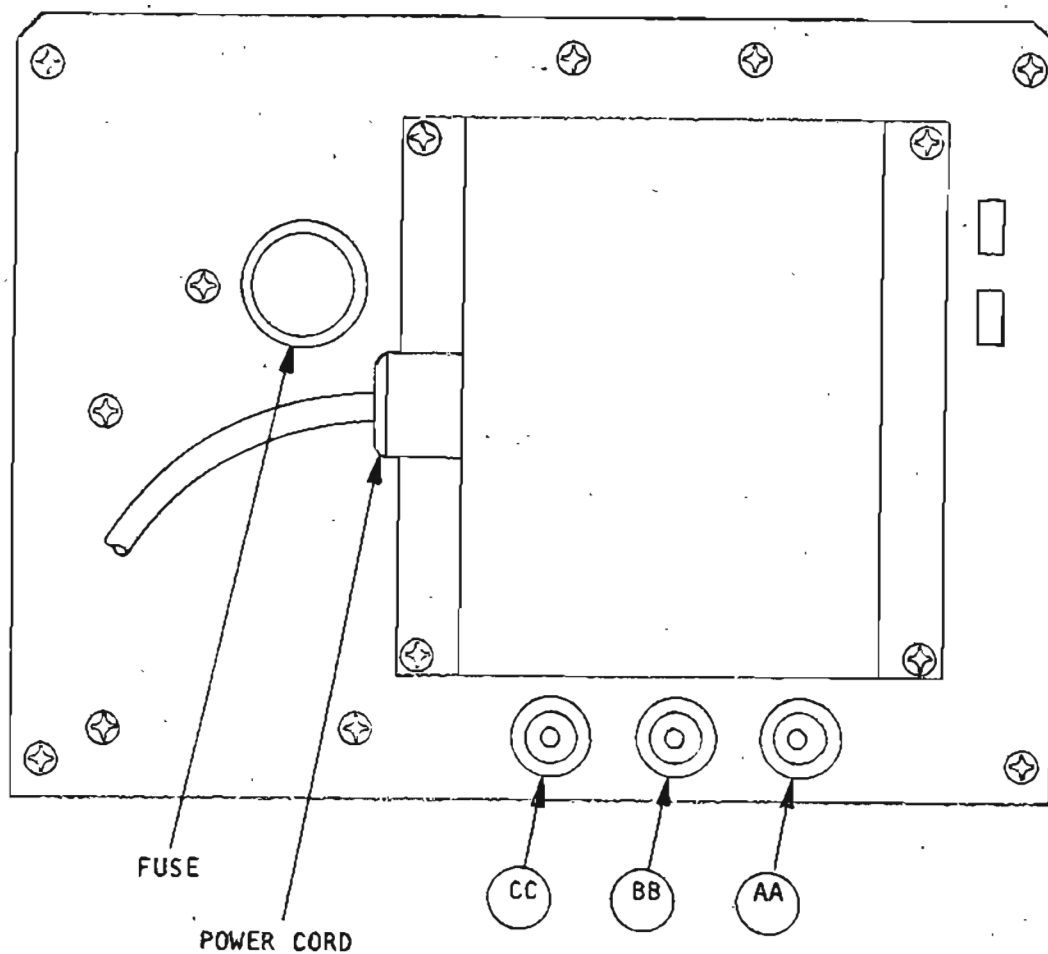

Figure 2-2 - Rear Panel
2.3 Rear Panel Connectors (see Figure 2-2)